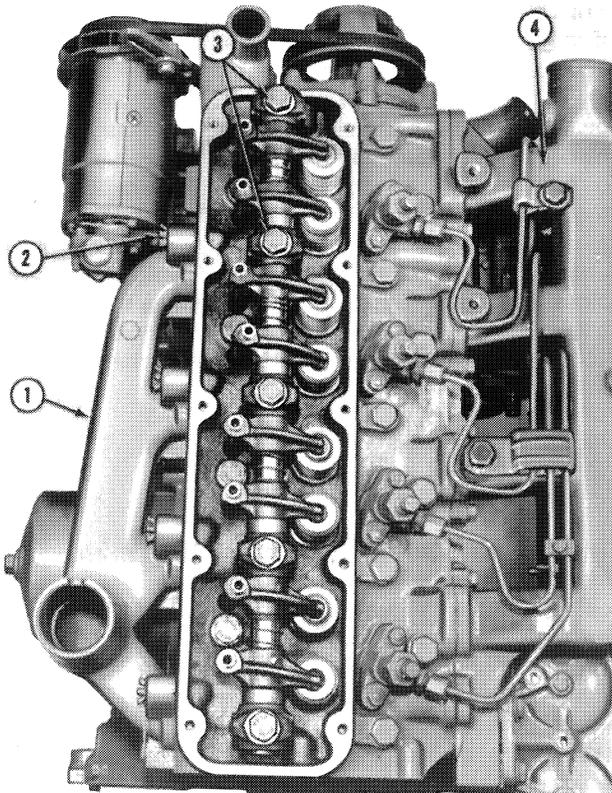

Figure 2
3. Bend the lock tabs back. Figure 2, and remove the bolts that secure the exhaust manifold to the cylinder head.
4. Remove the exhaust manifold and metal gasket, Figure 2.
9. Remove the bolts and lock washers that retain the intake manifold, Figure 2, to the cylinder head and remove the manifold and gasket.
12. Visually check the push rods for straightness before they are removed by rotating them with the valve closed. Loosen the bolts that retain the rocker shaft to the cylinder head, Figure 2, evenly and alternately until all tension has been relieved, and lift the rocker shaft assembly from the cylinder head.